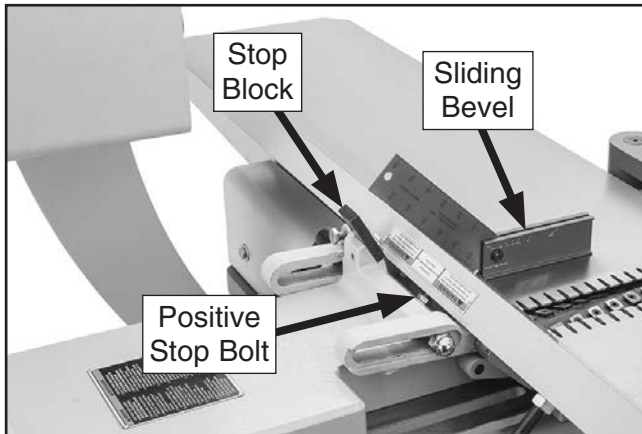

Figure 64. Adjusting fence 45° outward (135°).
2. Loosen fence tilt lock, rotate stop block up, and position fence approximately 45° outward (135°) onto positive stop bolt (see **Figure 64**).
5. Verify angle with sliding bevel set to 45° outward (135°), as shown in **Figure 64**, then retighten jam nut.